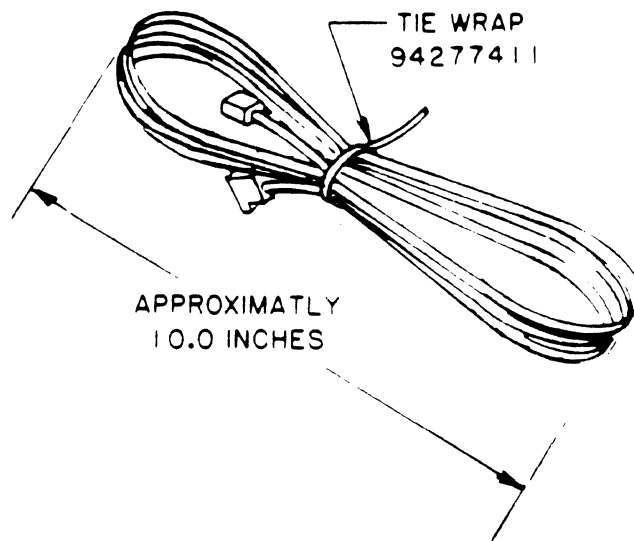

Figure 3-15. Prepared Power Cord
- b. Form power cord into approximately a 10-inch diameter coil. Fasten power cord coil in center with tie-wrap (refer to figure 3-15).